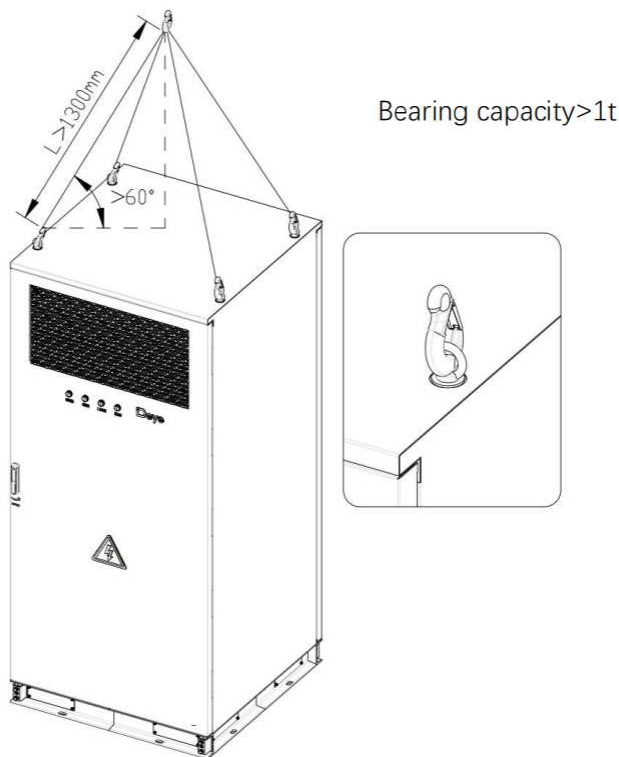

Figure.1
- Ensure that all sling connections are safe and reliable, and that the lengths of the slings connected to the corner fittings are equal. See the Figure.1